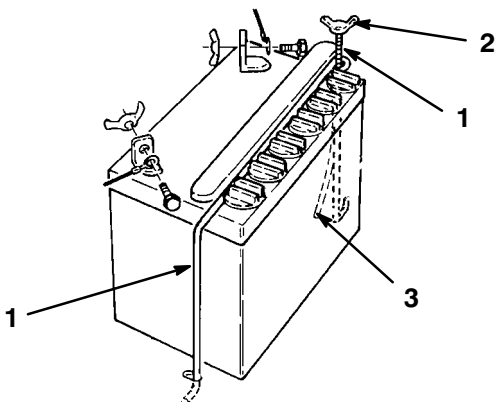

Figure 3
1. Remove wing nut securing battery hold downs to rider chassis (Fig. 3).